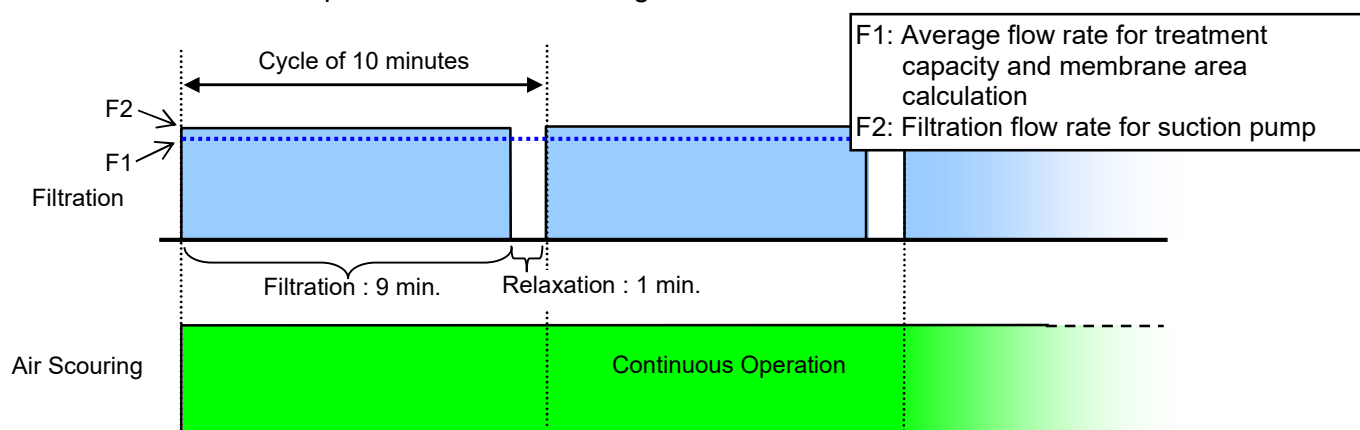

Figure IV-1: Recommended Time Chart for Intermittent Filtration
Usually intermittent filtration (filtration with relaxation) is recommended. **The most common mode of filtration operation is nine (9) minutes of filtration followed by one (1) minute of suspended membrane filtration (membrane relaxation) with continued air scouring**, as shown in Figure IV-1. This period of relaxation, with no filtration, allows the continued air scouring to be more effective at removing solids that may have accumulated on the surface of the membrane. Intermittent filtration followed by a relaxation period is recommended for stable and efficient membrane filtration.